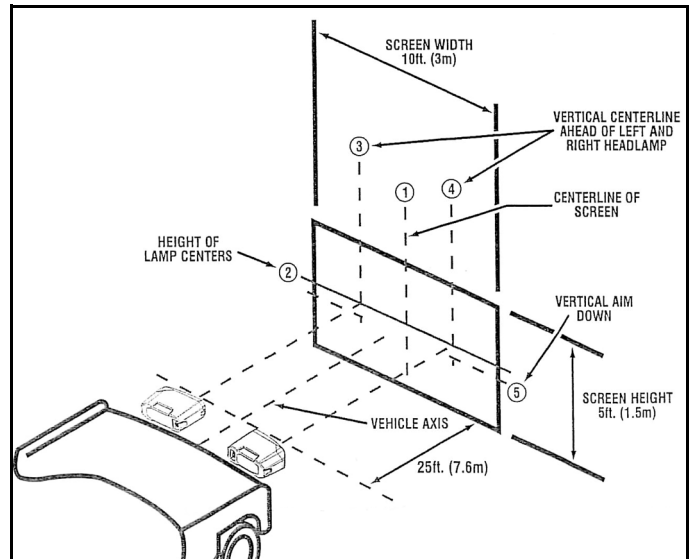

Figure 2-9-Alignment of Headlamp Aiming Screen
The vehicle must be positioned 25 feet (7.6 m) away from the aiming wall. The center of the vehicle must be aligned with the center of the wall. This can be facilitated by using black tape to mark the wall. The wall will require a vertical line that represents the center line of the vehicle and the wall (Line 1), and a horizontal line that represents the center line height of the snow plow lamps (Line 2), (reference item 9 below). The wall will also require two vertical lines bisecting the horizontal line that provides the distance between the snow plow headlamps (Lines 3 left and 4 right). Locate the high beam light on each snow plow lamp and project the location onto the front lens with the aid of a small 1/2" piece of black tape. Then, using a tape measure, accurately measure the distance between the black tape left and right light centers. Once the distance has been determined, divide the distance by two. This is the distance between Line #1 to Line #3 and Line #1 to Line #4. (See Figure 2-9.) Finally, the wall will require a horizontal line that represents the nominal vertical aim position down (Line 5), (reference item 10 below). (See Figure 2-9.)
10. Reference Table #1 and determine the nominal vertical aim down below the horizontal center line of the snow plow headlamps. Using black tap, draw this horizontal line (Line 5). (See Figure 2-9.)